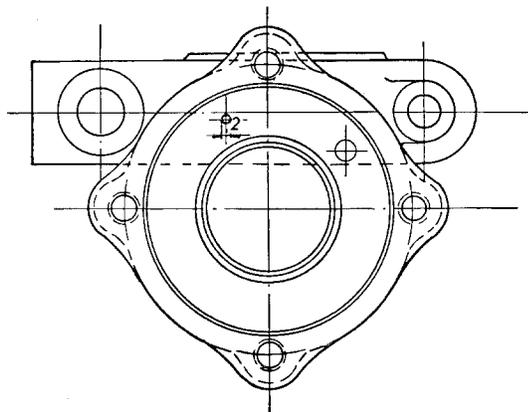

Figure 18-9/3
if the filter element is fouled and clogged (Figure 18-9/1). The relief valve opens as soon as the difference in oil pressure before the filter and the oil pressure behind the filter becomes greater than 2 atm. This guarantees an immediate and adequate oil supply to all points of lubrication during every operating condition of the engine.
The housing of the horizontally arranged oil filter is in addition furnished with a 2 mm hole (see Figure 18-9/3). Oil flows through this hole into the main oilway, even at the lowest oil pressures, that is even before the opening of the relief valve (8) (see Figure 18-9/1).
In addition to the relief valve (4) another relief valve (5) is installed in the upper part of the bowl-type filter (see Figure 18-9/2). In other engine types having an additional fine filter element this relief valve (5) opens the oil passage to the main oilway if the fine filter element is clogged. The fixing screw (7) is designed as an adapter (see Figure 18-9/2). On the horizontally arranged oil filter the adapter (9) is provided with a connector for the oil pressure gauge line (see Figure 18-9/1). On the bowl-type filter this connector (8) is fixed to the upper part of the housing (see Figure 18-9/2).